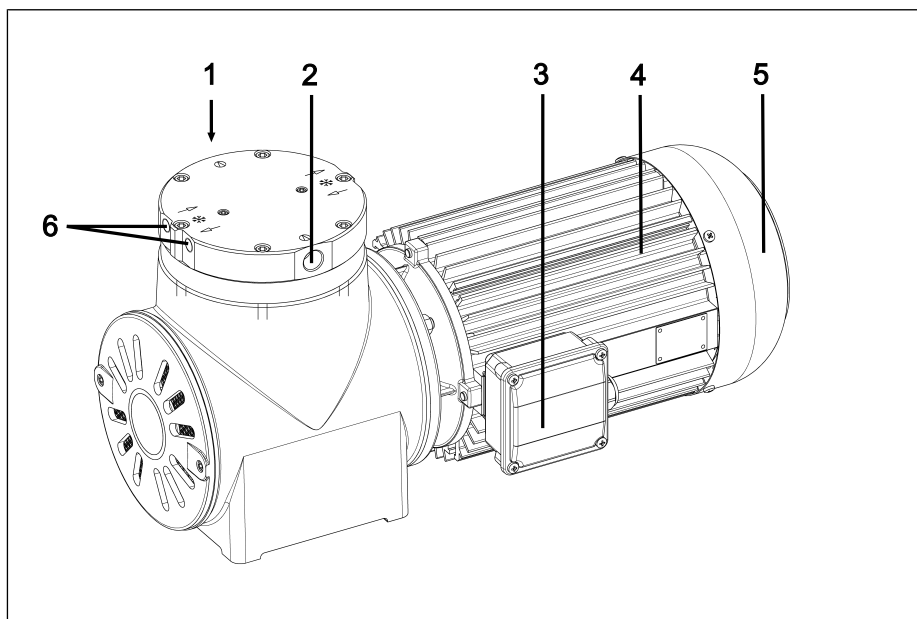
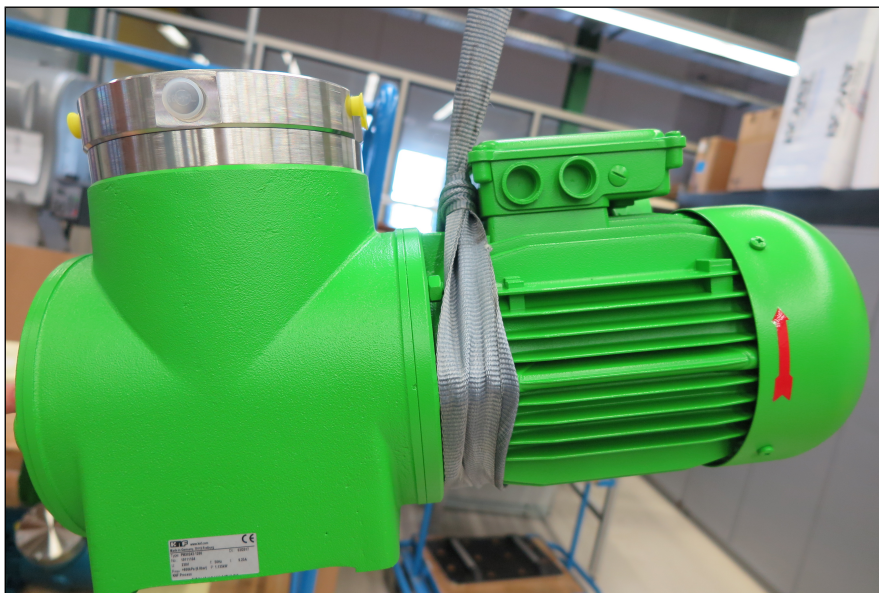

Fig.1 Diaphragm pump N1200
Fig.5
2. Fasten the carrying strap between compressor housing and motor (Fig. 1, see Fig. 5).